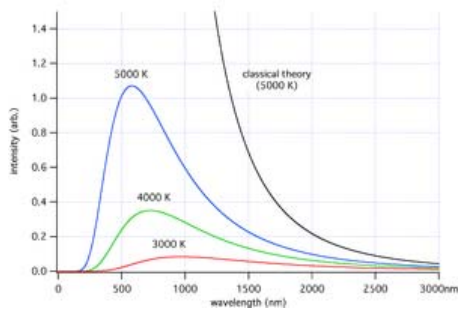

Figure 1: The amount of radiation as a function of frequency: classical and quantum theories (From Wikipedia)
continual increase in radiated energy with frequency was named “the ultraviolet catastrophe” (Fig.1):
Only at long wavelengths, the Rayleigh-Jean Law is in good agreement with experimental data. We can see from (2) that intensity approaches infinity as  $\lambda$  approaches zero. This is the “ultraviolet catastrophe” from Fig. 1.